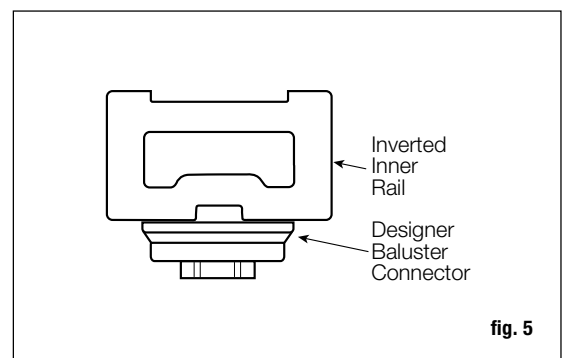
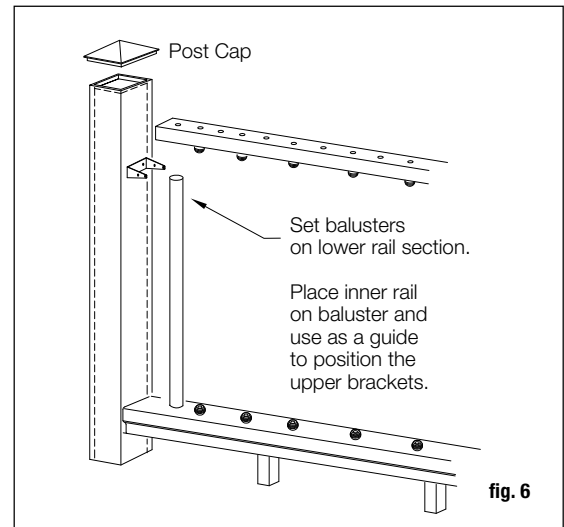

fig. 5
fig. 6
Step 12 *Important:* When using Deckorators Designer Baluster Connectors (both Estate and Classic), the upper inner rail must be inverted (fig. 5). Use an exterior adhesive on the underside of the Designer Baluster Connectors to prevent the balusters from spinning. Install the baluster connectors on the underside of the top inner rail (fig. 6). Set the rail on to the balusters, gently tapping the rail to remove any gaps. Attach the inner rail to the brackets by pre-drilling 1/8" holes at each bracket hole and into the inner rail. Fasten the rail to the bracket using 1" countersunk screws.